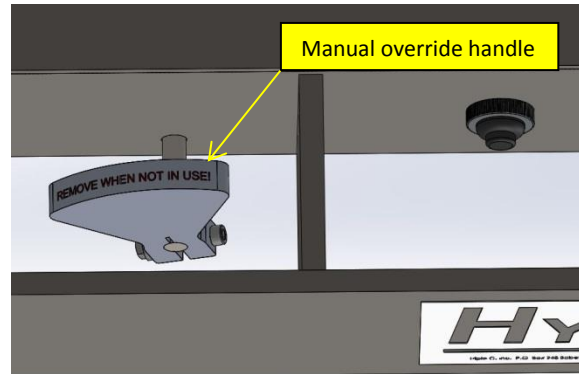

Figure 6
8. Install the manual override handle on the end of the pivot rod with the face of the handle flush with the end of the rod. Position the handle in a way that it would allow full movement for the various positions during operation and tighten the nut. **Figure 6**